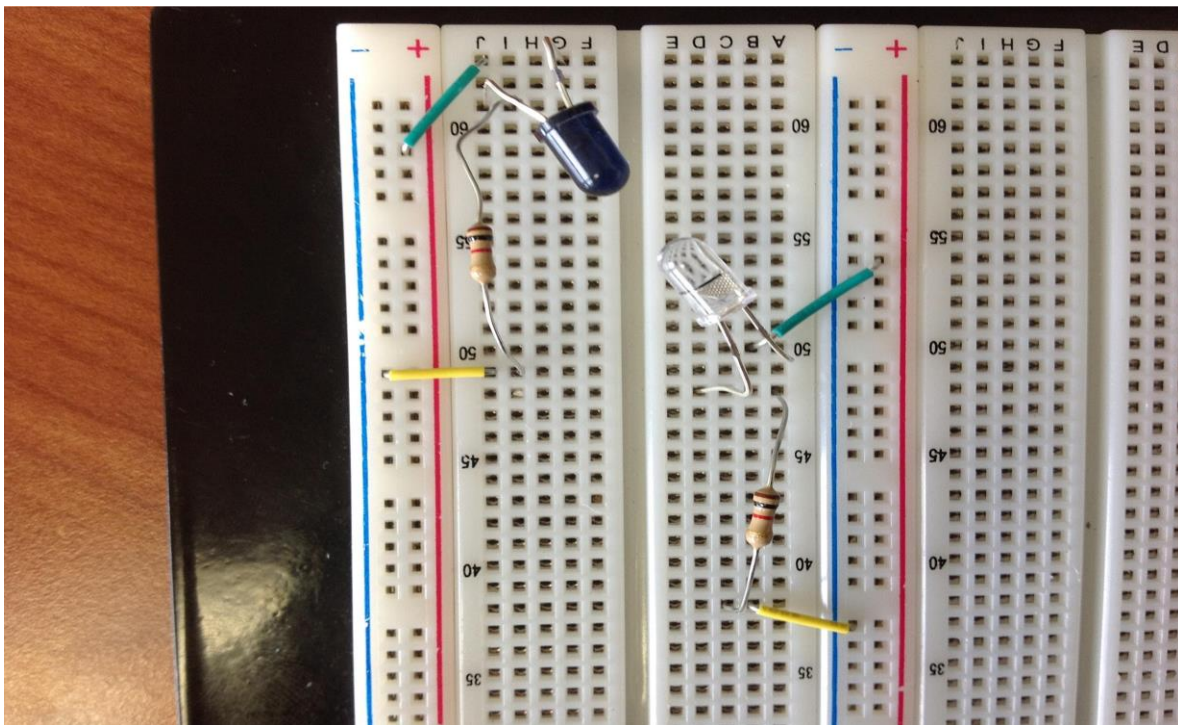

Figure 4.11 – IR Emitter and Detector Alignment
- 1) The emitter and detector are quite directional. You will need to carefully align them so that they are pointing at each other as shown in Figure 4.11. It might be helpful if you put the emitter and detector on two different breadboards (if you and your partner have separate breadboards). This will make it much easier to fiddle with the alignment.